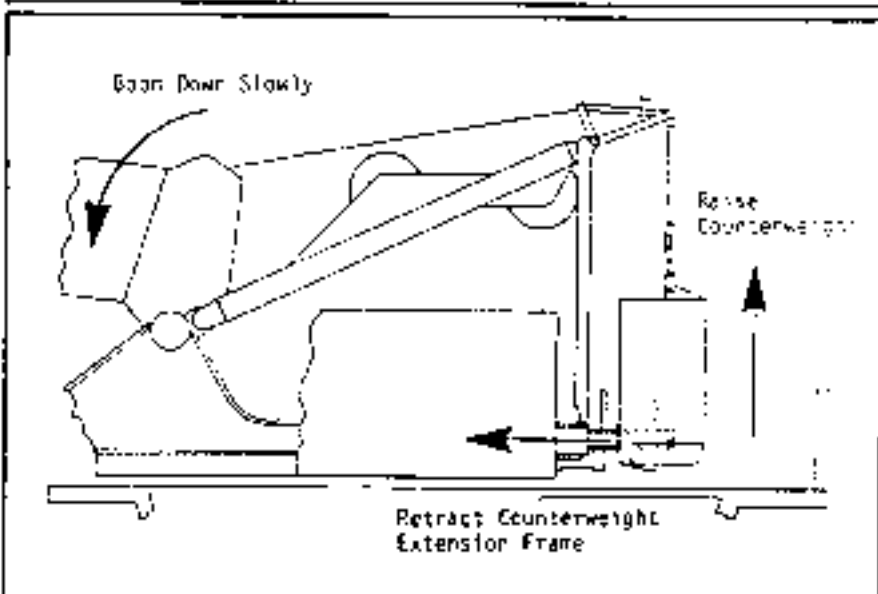

Fig. 1-34
- (f) Lower the boom until counterweight clears the rear flange of the counterweight extension frame as in Fig. 1-34.